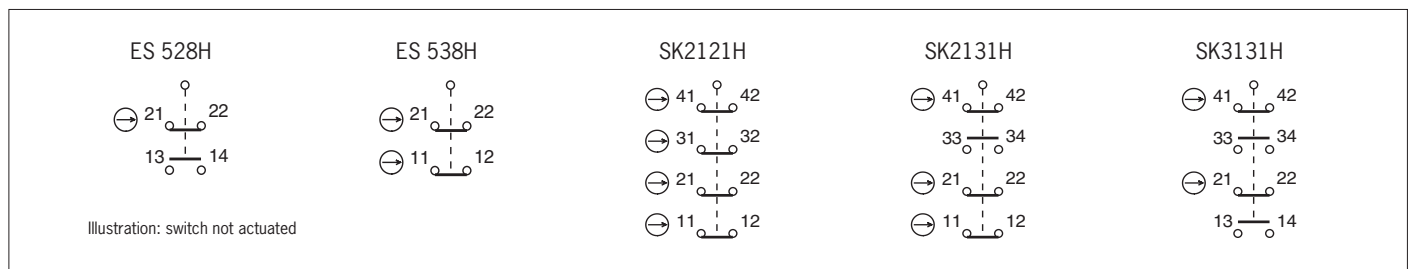

Fig. 6: Terminal assignment for switching elements
At least one contact (⊖) must be used. This signals the position of the guard (for terminal assignment, see Fig. 6).
3. Connect and tighten the terminals with 0.5 Nm (for terminal assignment, see Fig. 6).